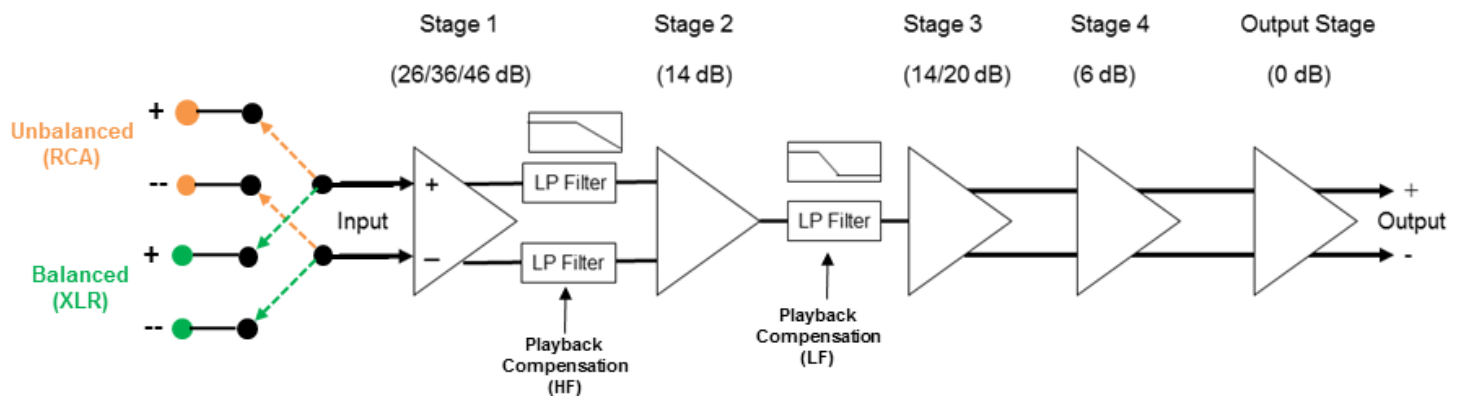

Figure 7 – *Phono III* Block Diagram
The block design of the *Phono III* is shown in **Figure 7**. It consists of four all JFET balanced (differential) amplifier gain stages, two of which can be adjusted to provide the required gain to accommodate virtually any phono cartridge. In addition, each gain stage employs its own precision, temperature compensated, low noise constant current source and voltage regulator for the ultimate in stability, signal control, and isolation.
As can be seen from **Figure 7**, the first and second gain stages, as well as the third and fourth gain stages are differential pairs, and that the amplifier input operates in the fully balanced mode at all times.⁶ The fourth gain stage is also connected differentially to the unity gain output driver which provides a balanced output through a standard XLR connector and a single-ended output via a standard RCA type phono jack. The two switches shown at the input represent the process that allows the input stage to accept inputs from cables terminated in “unbalanced” (RCA) or “balanced (XLR) connectors.
As seen in **Figure 7**, the playback equalization is divided into two parts. The high frequency (HF) (>1kHz) compensation is located between Stages 1 and 2, and the compensation for frequencies <1kHz is located between Stages 2 and 3. The compensation is designed in this manner to ensure that HF signals from the cartridge which enter the preamplifier at levels greater than those at lower frequencies are correctly attenuated before passing to the other gain stages of the *Phono III*. This approach ensures high dynamic range over the full frequency spectrum as well as significantly reducing the output noise power. Because of the inherent flexibility of this approach, it was decided to incorporate additional playback equalization curves in addition to the RIAA curve which has become the recording industry standard. **Appendix A** provides an in-depth discussion of playback equalization curves and information on their incorporation into the *Phono III* architecture.